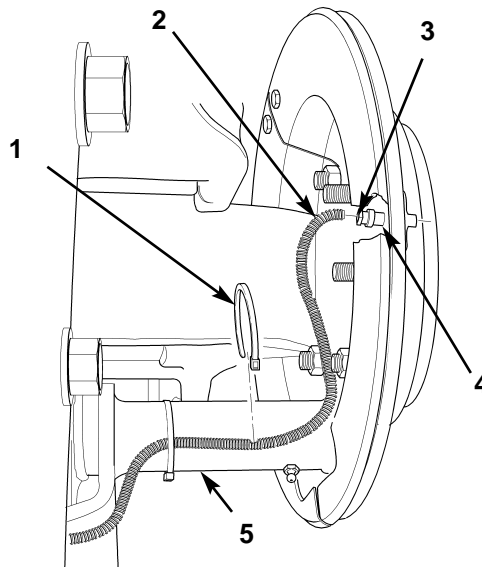
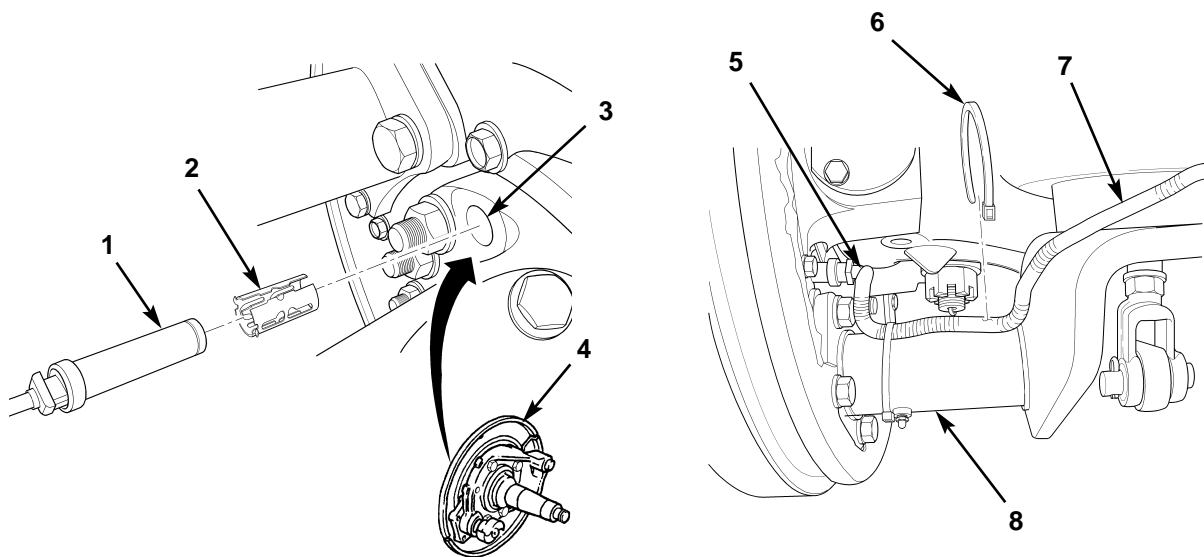

Figure 7. Installing Split Loom on Wheel Sensor Cable.
Figure 9. Installing Wheel Sensor on Front Axle.
4. Install split loom (figure 7, item 2) on cable (figure 7, item 3), slide end of split loom (figure 7, item 2) into hole (figure 7, item 4), and secure split loom (figure 7, item 2) to camshaft bracket (figure 7, item 5) with two tie straps (figure 7, item 1).
1. Install clamp sleeve (figure 9, item 2) on hole (figure 9, item 3) in front spindle and brake spider (figure 9, item 4).
2. Install wheel sensor (figure 9, item 1) on clamp sleeve (figure 9, item 2) and push wheel sensor (figure 9, item 1) in until it contacts tone ring.
3. Install split loom (figure 9, item 7) on cable (figure 9, item 5). Tape end of split loom (figure 9, item 7) to cable (figure 7, item 5) with electrical tape.
4. Secure split loom (figure 9, item 7) to camshaft bracket (figure 9, item 8) with two new tie straps (figure 9, item 6).